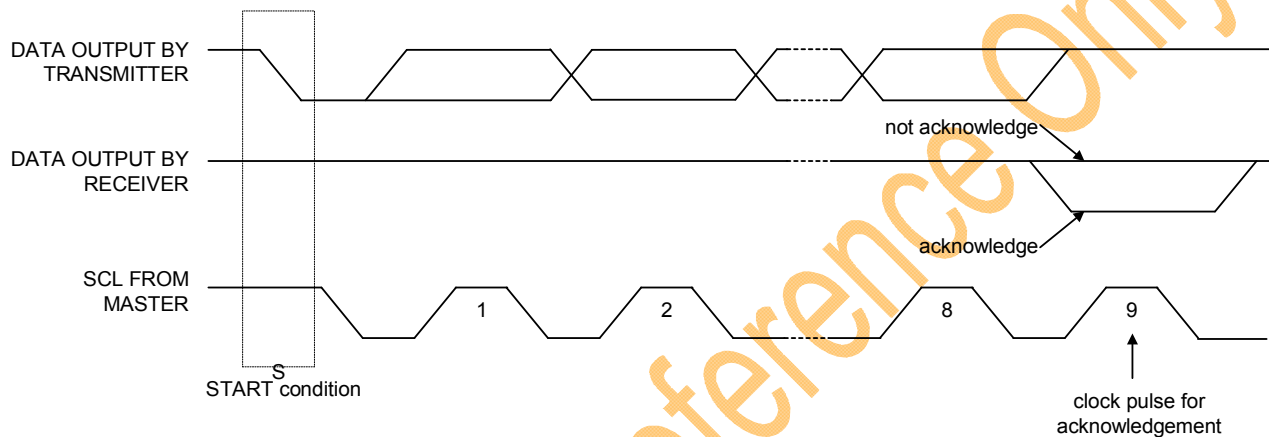

Figure.16 Acknowledge
The CH1115 supports both read and write access. The $R/\bar{W}$ bit is part of the slave address. Before any data is transmitted on the I²C-bus, the device that should respond is addressed first. Two 7-bit slave addresses (0111100 and 0111101) are reserved for the CH1115. The least significant bit of the slave address is set by connecting the input SA0 to either logic 0(VSS) or 1 (VDD1). The I²C-bus protocol is illustrated in Fig.16. The sequence is initiated with a START condition (S) from the I²C-bus master that is followed by the slave address. All slaves with the corresponding address acknowledge in parallel, all the others will ignore the I²C-bus transfer. After acknowledgement, one or more command words follow which define the status of the addressed slaves. A command word consists of a control byte, which defines C_0 and $D/\bar{C}$ (note1), plus a data byte (see Fig.16). The last control byte is tagged with a cleared most significant bit, the continuation bit C_0 . After a control byte with a cleared C_0 -bit, only data bytes will follow. The state of the $D/\bar{C}$ -bit defines whether the data-byte is interpreted as a command or as RAM-data. The control and data bytes are also acknowledged by all addressed slaves on the bus. After the last control byte, depending on the $D/\bar{C}$ bit setting, either a series of display data bytes or command data bytes may follow. If the $D/\bar{C}$ bit was set to '1', these display bytes are stored in the display RAM at the address specified by the data pointer. The data pointer is automatically updated and the data is directed to the intended CH1115 device. If the $D/\bar{C}$ bit of the last control byte was set to '0', these command bytes will be decoded and the setting of the device will be changed according to the received commands. The acknowledgement after each byte is made only by the addressed slave. At the end of the transmission the I²C-bus master issues a stop condition (P). If the $R/\bar{W}$ bit is set to one in the slave-address, the chip will output data immediately after the slave-address according to the $D/\bar{C}$ bit, which was sent during the last write access. If no acknowledge is generated by the master after a byte, the driver stops transferring data to the master.